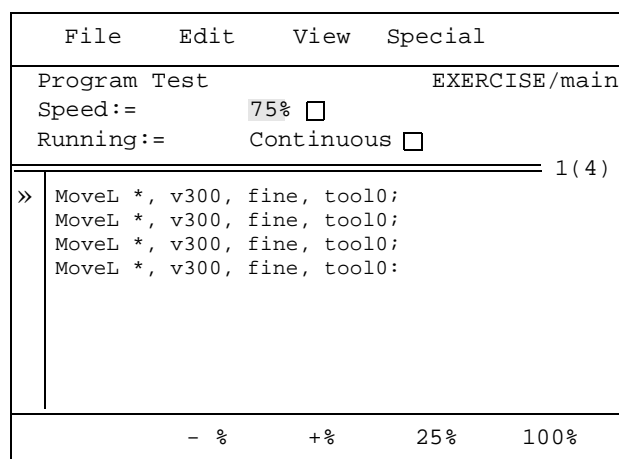

Figure 37 Correction of velocity.
4. Reduce the velocity to 75% by pressing the **-%** function key (see Figure 37).